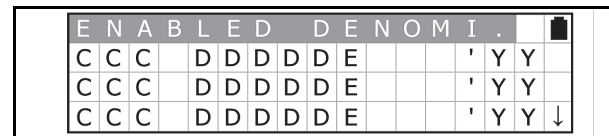

Figure 26 Denomination Table Screen
- Press the OK Key to display the Denomination Table Screen (See Figure 26). Press the CLR Key to return to the previous Function Selection Screen.